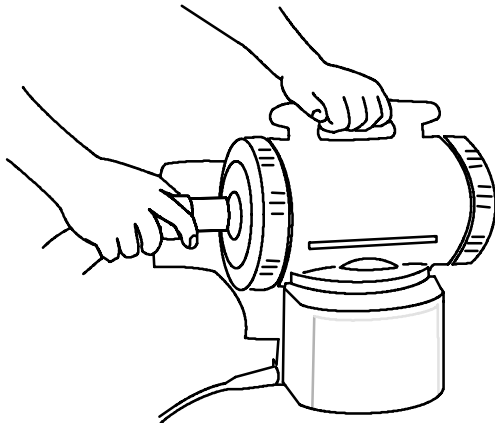

FIG. 7
3. Replace the cap. Push the hose into the end cap opening (Figure 7). End caps are interchangeable for right- or left-handed operators.